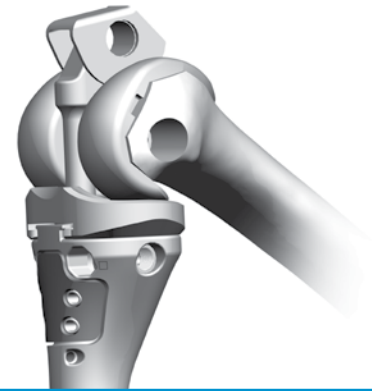

Fig. 43
- Remove the remaining internal hinge components (Fig. 43).